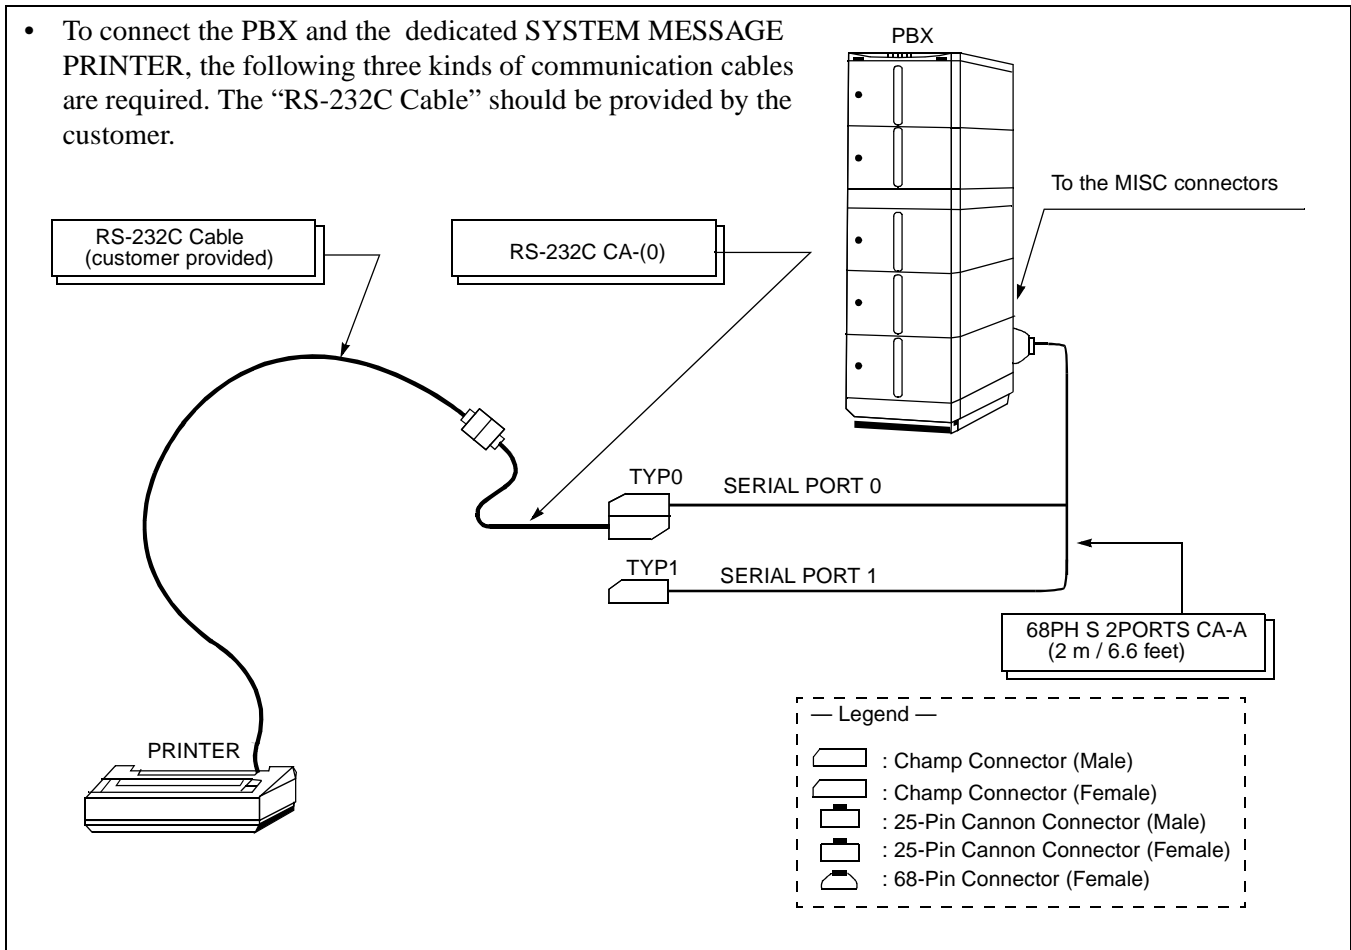

Figure 017-4 Connection of System Message Printer
- Cable connection ————— Connect the cable between the PBX and the dedicated System Message Printer which is equipped with a parallel port referring to Figure 017-4.